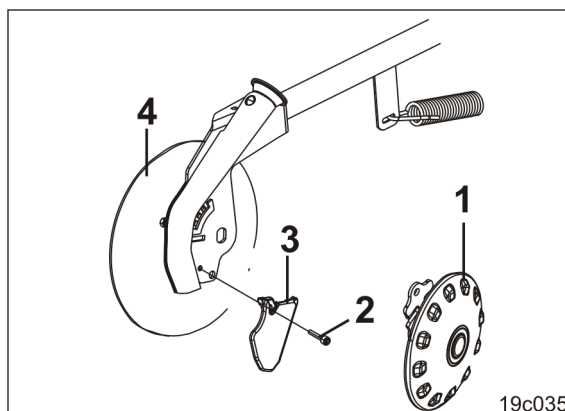

Fig. 235
1. Remove the depth control disc (Fig. 235/1) (see section "Mounting the depth control disc/wheel", page 142).
2. Release the cylinder screw (Fig. 235/2) (screw tightening torque 30-35 Nm).
3. Replace the wear tip (Fig. 235/3) and install in reverse sequence.
The wear tip (Fig. 235/3) must not project beyond the edge of the seeding disc (Fig. 235/4). If necessary, replace the seeding disc.